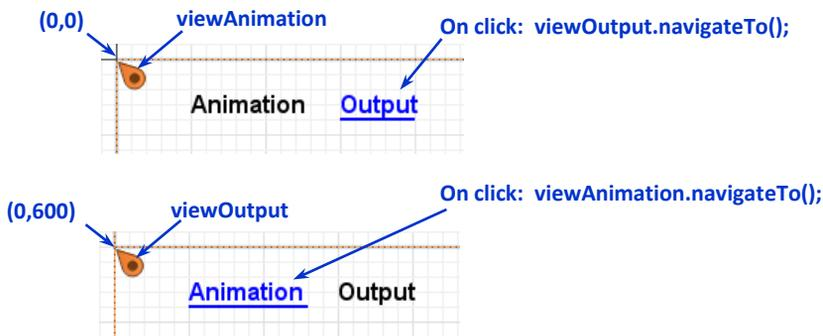

Figure 13.12 Hyperlink navigation between view areas
10. Draw a blue line under the text “Output” to make it look like a hyperlink, see Figure 13.12.